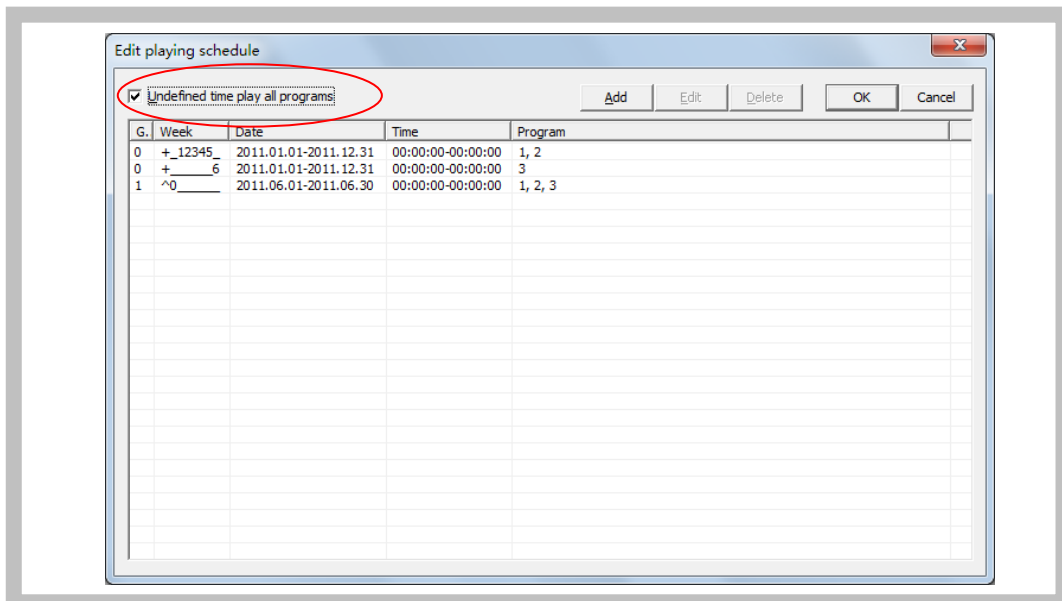

Figure41 Playing schedule list
- 1) Click “Edit” – “playing schedule” in menu, pops out the “Edit playing schedule” dialog box, as Figure41 shown